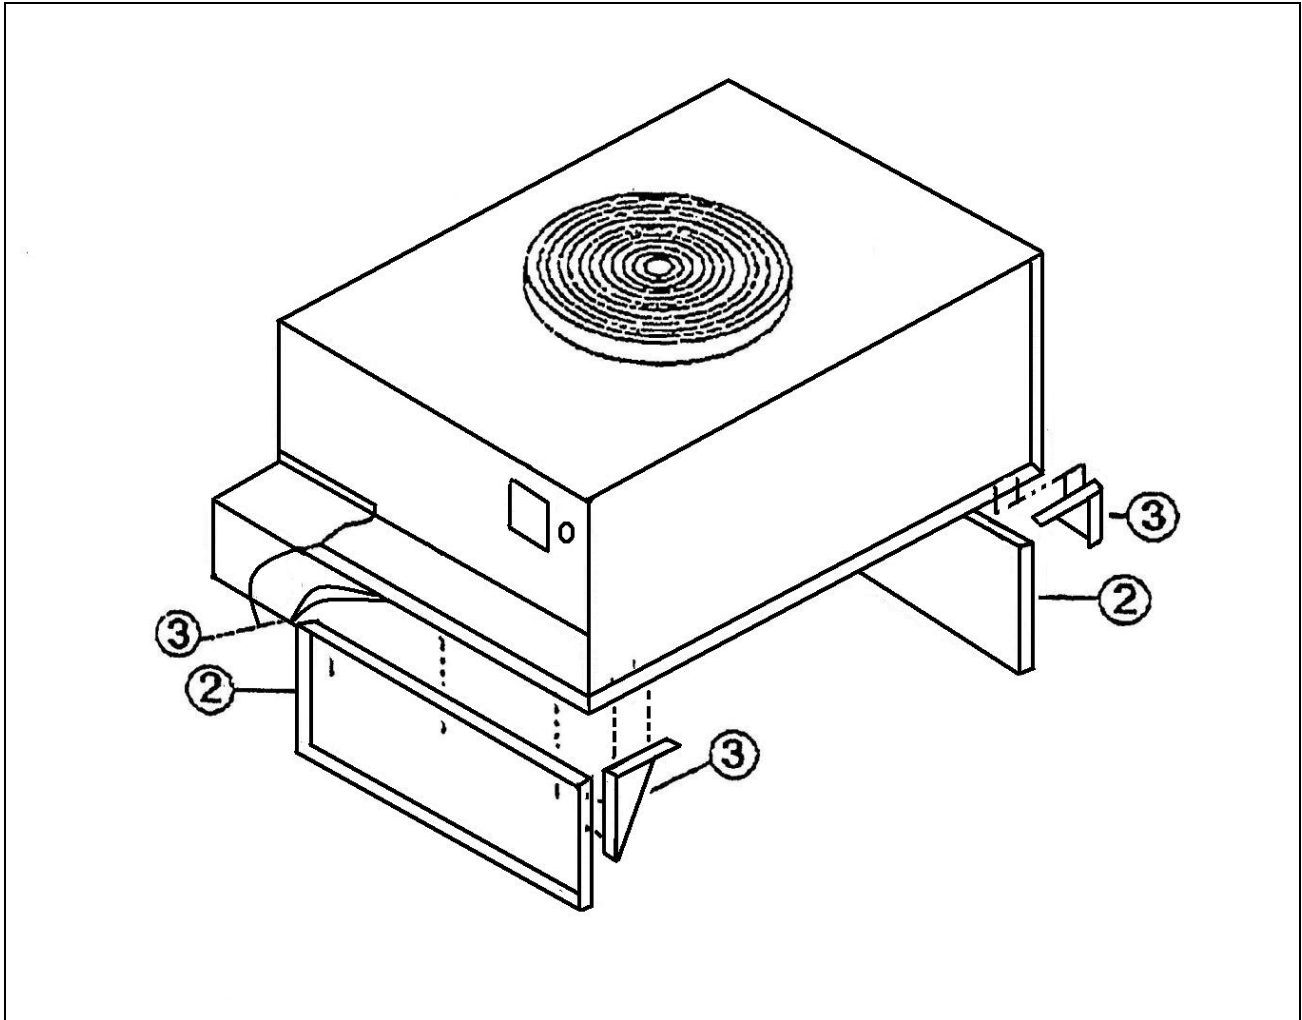

Figure 3. Leg Assembly
1. Assemble the two legs, item 2 as shown in Figure 3, to the ACM, using three each 1/4 – 20x3/4” long bolts per leg. Captive nuts are provided on unit for this assembly.
2. Four gussets, item 3, are provided for leg support as shown in Figure 3.